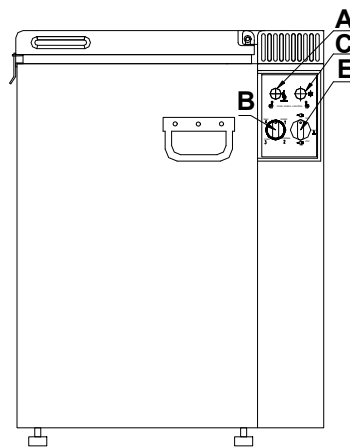

Figure4
The refrigerator can be run on either AC 230 V or 110V or LP gas or DC12V. Switching among these modes of operation is carried out by means of control buttons positioned as shown in fig. 4. The refrigerator temperature is controlled by a thermostat (B). The refrigerator is fitted with a safety device which automatically shuts off the supply of gas if the flame goes out. The safety device can be opened manually by depressing button (A). If the burner is working the flame indicator (D) pointer will be in the green field.
When connecting the appliance for the first time, set the thermostat to maximum (Figure 4.B);